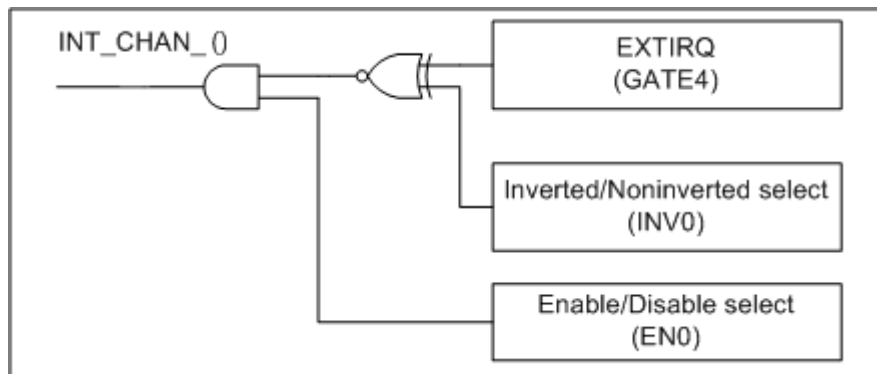

Figure 2.7
Figure 2.7 illustrates the control method of external interrupt. Note that the signal source come from GATE4. The INV0 is used to invert/non-invert the trigger signal source and EN0 is used to disable/enable the timer interrupt (Pin13 of CN5) (Refer to Sec. 2.5 for the source of interrupt signal). **The INT_CHAN_0 must be fixed in low level state normally and generated a high_pulse to interrupt the PC.**
1. The EN0 can be used to enable/disable the INT_CHAN_0 as follows: (refer to Figure 2.7 and Sec. 3.1.4)
2. The INV0 can be used to invert/non-invert the EXTIRQ as follows: (Refer to Figure 2.7 and Sec. 3.1.6)